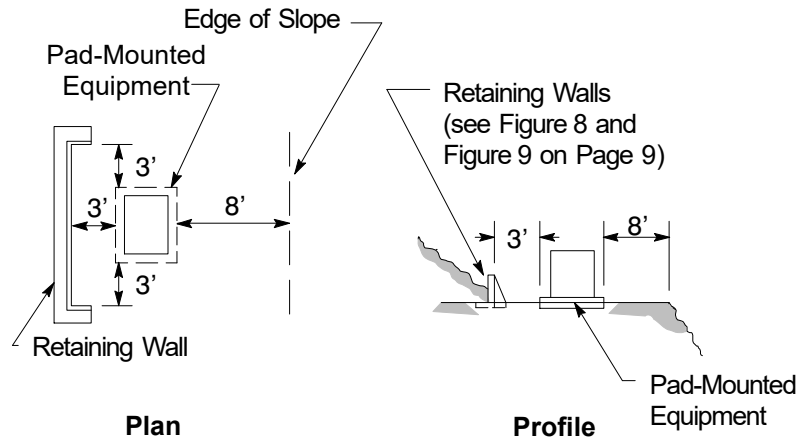
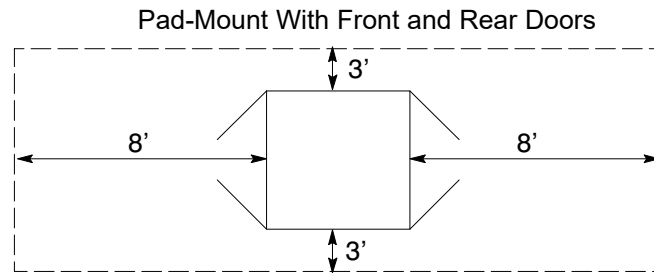

Figure 4
Figure 5
- B. Pad-Mounted Equipment (see Figure 4 and Figure 5 on Page 6).
- A. Retaining walls are required when PG&E determines that it is necessary to protect equipment or enclosures against landslides, drainage wash, drifting sands, etc. The applicant is responsible for the installation and maintenance of the retaining walls and any associated safety rail. The retaining wall will be designed to provide a barrier of sufficient strength and suitable construction to provide adequate protection and working space around the enclosure or equipment. Typical examples of retaining wall placement are shown in Figure 3 and Figure 4 on Page 6 of this document.